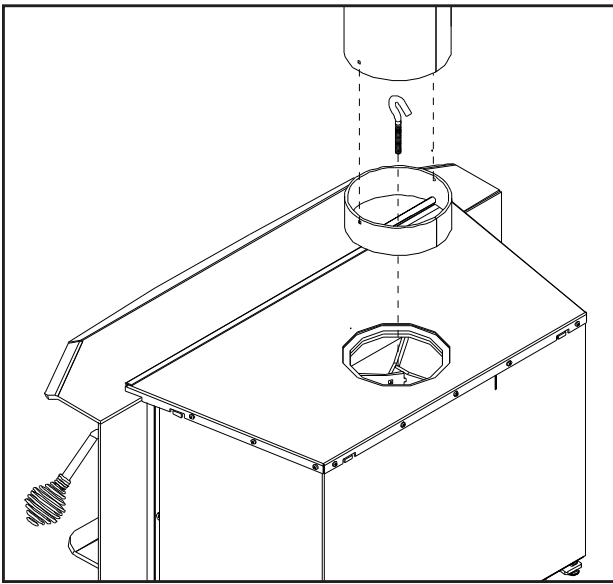
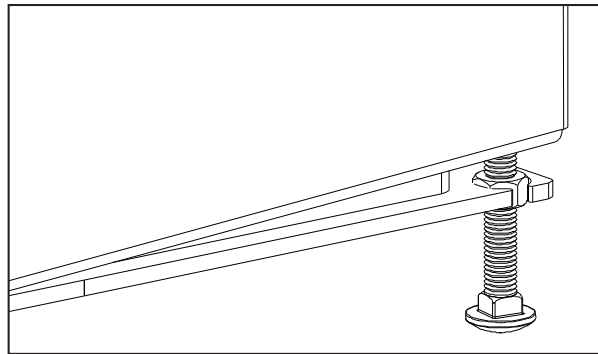

Figure 35: Attaching removable flue.
Figure 36: Leveling leg.
- f) Using the hook/bolt, grab the flue collar by the rod through the center and pull it into place (see Figure 35).
- h) Re-install ceramic baffles and the first two (2) front secondary air tube (see CERAMIC BAFFLE INSTALLATION).
3. There are two (2) leveling legs (shown in Figure 36), one on each side, at the back of the unit. Adjust the legs using a $\frac{9}{16}$ " wrench to ensure the unit is stable.